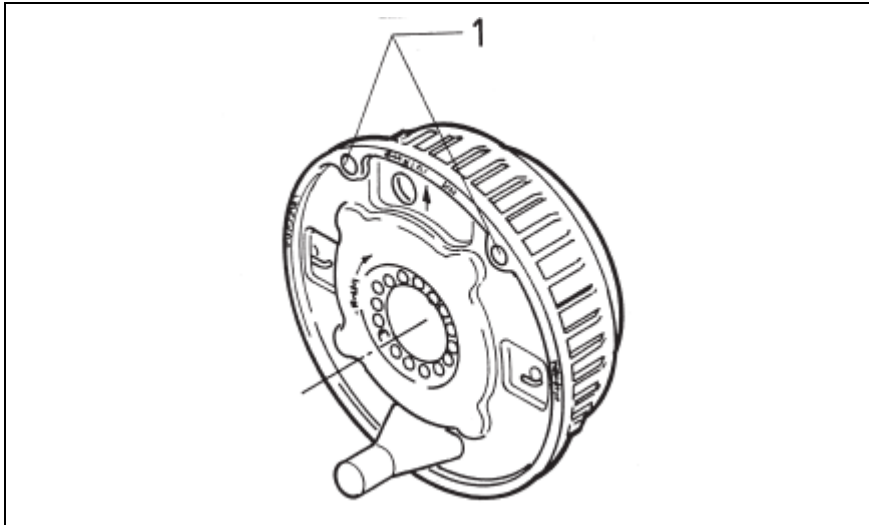

Figure 9.3 – brake lining wear indicators
Check the brake lining wear using the wear indicators (fig. 9.3 – ref. 1). If necessary, adjust the linings.